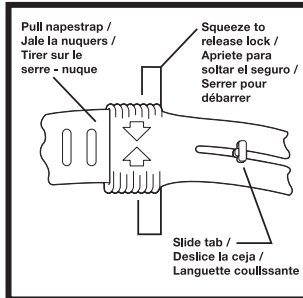

Figure 5
- For Staz-On Suspensions, tighten nape strap while sliding tab to your left until headband fits comfortably (Figure 5 & 6).